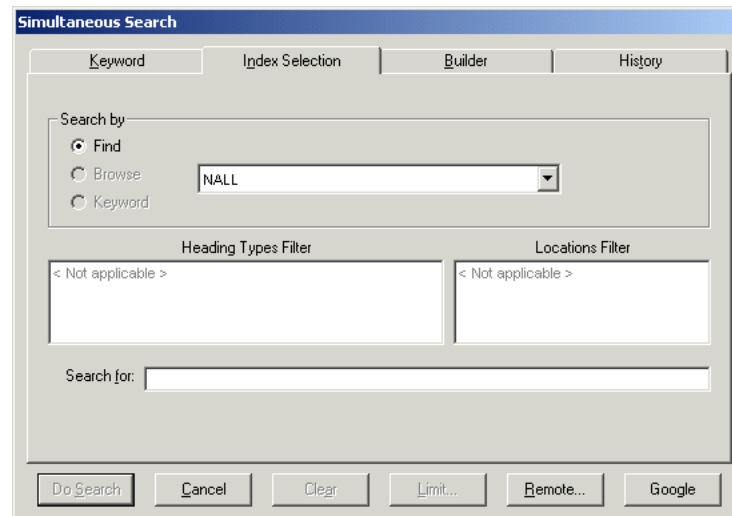

Figure 2-42. Simultaneous Search dialog box
- If you are connecting to more than one database, the **Simultaneous Search** dialog box opens (see Figure 2-42). The types of searches available are limited to those shared by all connected databases.